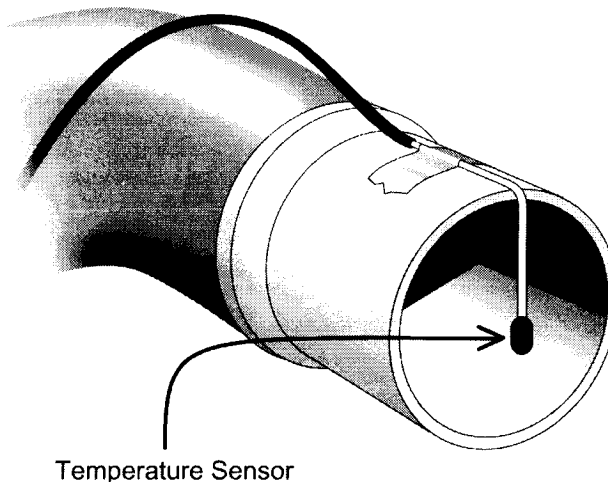

Figure 6 Delivery hose outlet showing temperature sensor position
4	The temperature control system is verified as follows: • Ensure the delivery hose cover is undamaged and that it covers the entire hose. • Ensure that the environmental conditions are 20°C to 22°C, 30% to 70% relative humidity, non-condensing. • Place the digital thermometer sensor in the centre of the delivery hose outlet as shown in Figure 6. • Check that the temperature of delivered air stabilises within five (5) minutes following a change in set temperature. • Check that the temperature of delivered air corresponds with the set temperature to within $\pm 2^{\circ}\text{C}$. • Note that some variation between the set temperature and temperature of delivered air is possible because of heat loss that occurs in the delivery hose. The magnitude of the heat loss will depend on the ambient temperature and the degree to which the hose is longitudinally compressed or extended.
4	Place the digital thermometer sensor in the centre of the delivery hose outlet as shown in Figure 6 above.